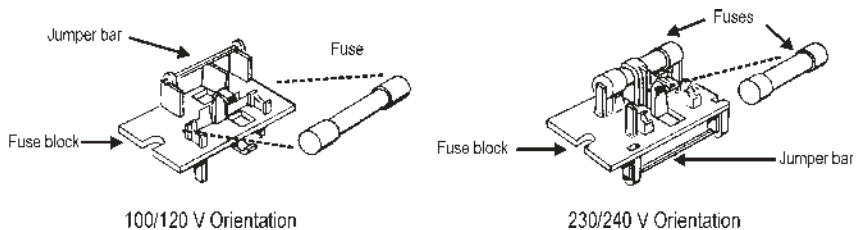

Figure 6. Fuse Block Orientation for North American (100/120 V) and European (230/240 V) operation..
- Change or add the correct fuses as necessary, referring to Figure 6. Refer to the instrument rear panel for the correct fuse electrical current rating.